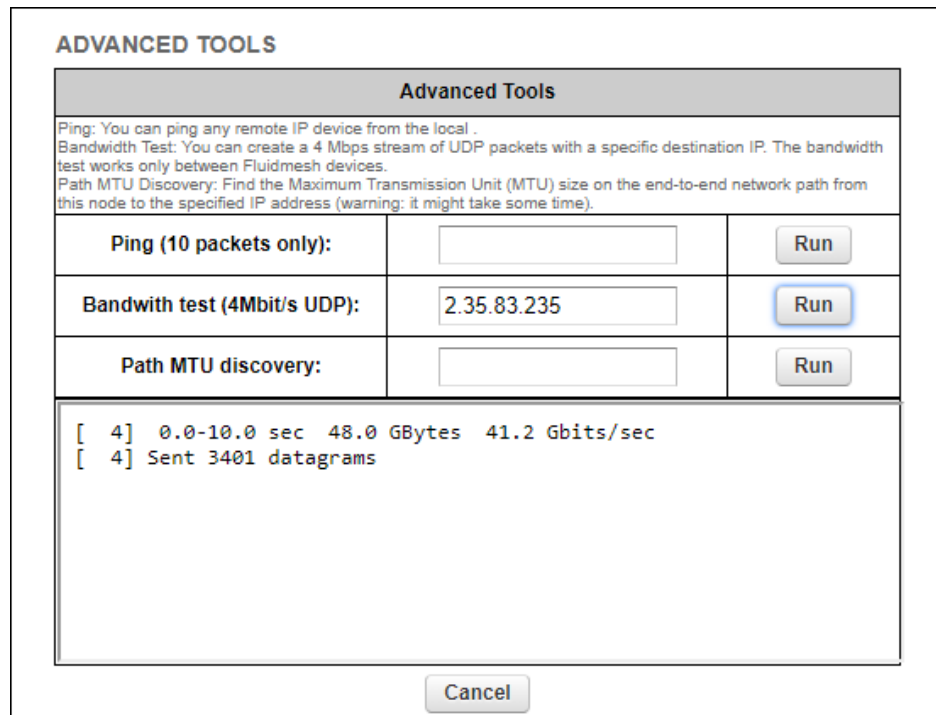

Figure 29. Advanced Tools window (Bandwidth test tool)
2. Enter the IP address of the other unit in the **Bandwidth test (4Mbit/s UDP)**: field (Figure 29 (page 90)).